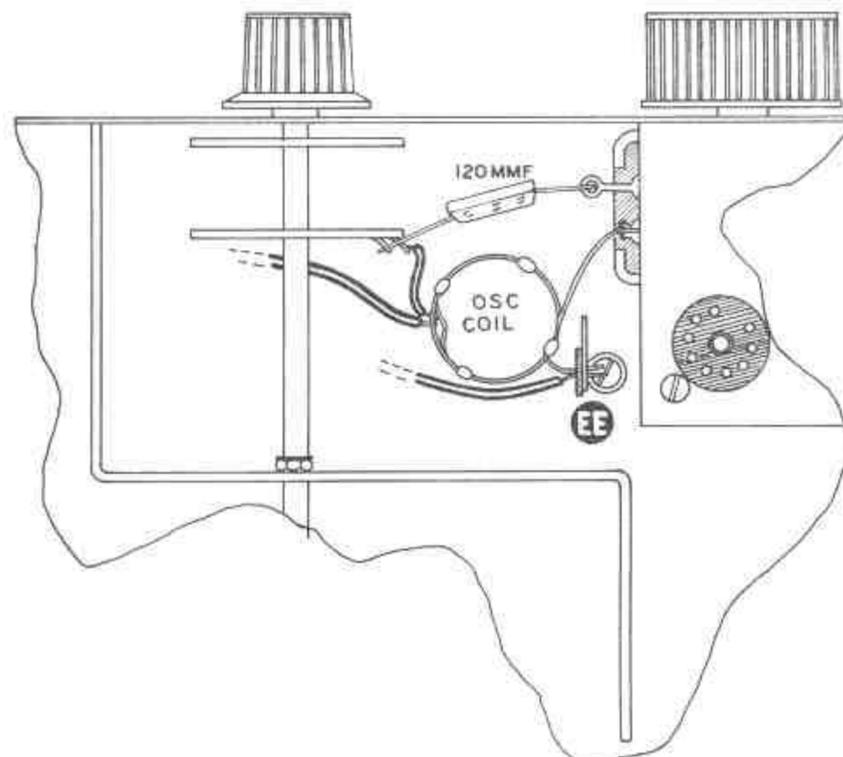

Figure 12
- (✓) Maintain the coil in the aligned vertical position and equidistant between the shield partition and the panel. See Figure 12.
- (✓) Dress the top coil lead down into the slot in the oscillator tuning capacitor. Maintain the coil position and avoid shorting out the top turn (S). Do not clip off remaining lead.
- (✓) Form the coil lead up under the yellow and orange leads and connect it to pin 6 on the 6CL6 tube socket (NS). See Pictorial 3.
- (✓) Connect the remaining end of the .005 μ f disc ceramic capacitor leading from the coil tie strip EE to the ground lug on the variable capacitor frame (S). See Pictorial 3.